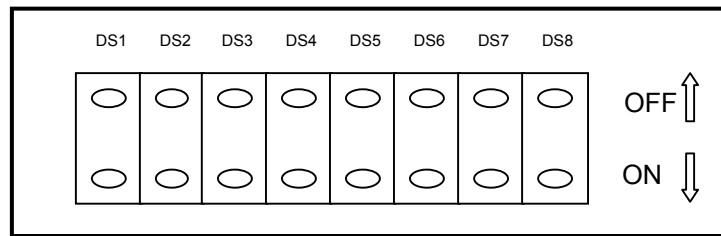
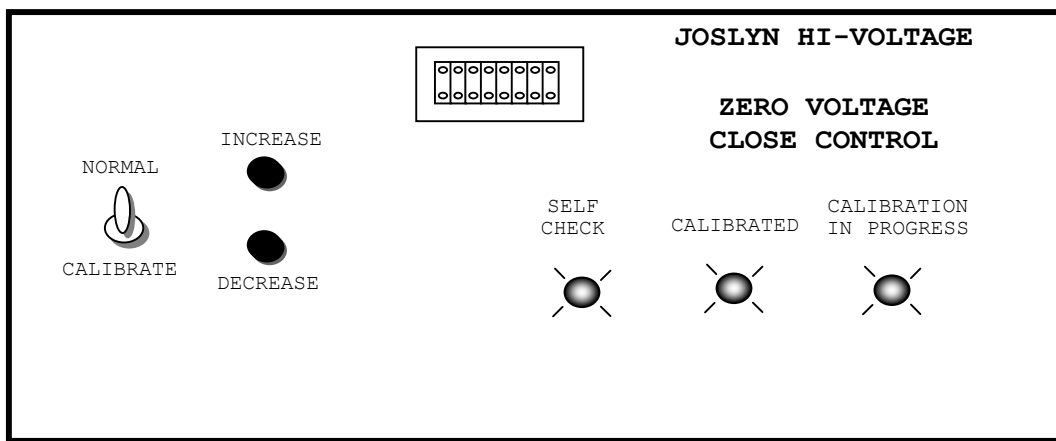

Figure 2: Dip Switch Configuration
Figure 3: ZVC Front Panel View
The control is programmed using 8 dip switches. These dip switches are set to match the system parameters and capacitor bank configuration. To enable or turn “On” a desired setting, the switch is toggled down. To disable a setting, the switch is toggled up to the “Off” position. A detail layout of the dip switches is shown in Figure 2. The overall view of the front panel is shown in Figure 3.
Normal/Calibrate Toggle Switch - When the toggle switch shown in Figure 3 is placed in the down position, the calibration procedure is started. The Calibration procedure continues until completed normally or aborted by moving the toggle switch back to the “Normal” position before the “Calibrated” LED is illuminated.
Increase & Decrease Buttons – The simultaneous pressing of the “Increase” & “Decrease” buttons, shown in Figure 3, will perform the following:
- Enables or activate any changes made to the Dip Switch settings (Shown in Figure 2) when the toggle switch is in the “Normal” position.